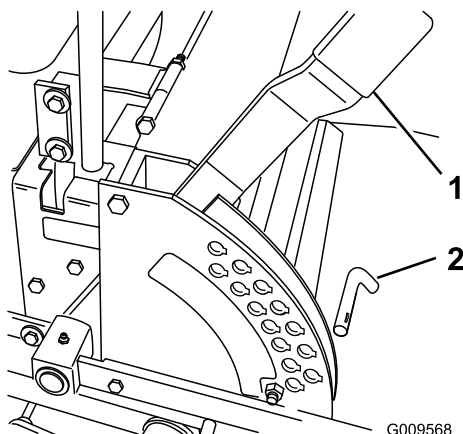

Figure 18
1. Raise the height-of-cut lever to the transport position (also the 5 inch (127 mm) cutting height position) (Figure 18).
2. To adjust, remove the pin from the height-of-cut bracket (Figure 18).
3. Select a hole in the height-of-cut bracket corresponding to the height-of-cut desired and, insert the pin (Figure 18).